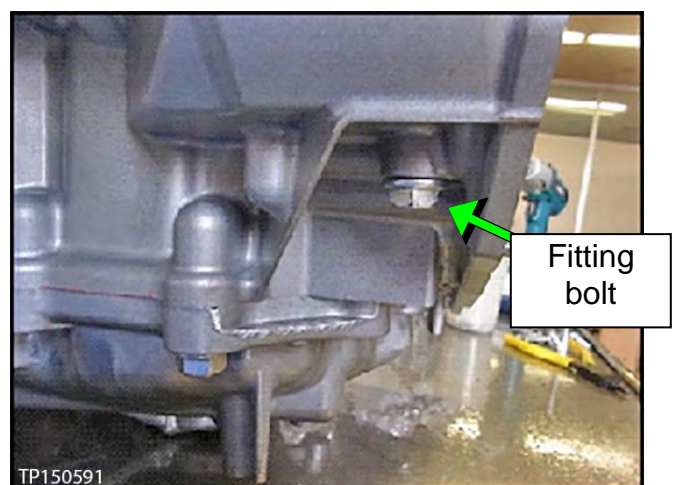

Figure 3E
3. Install the fitting bolt finger tight (Figure 3E).